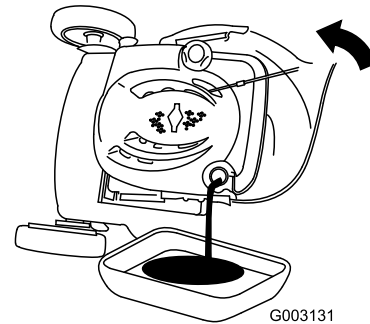

Figure 45
3. Tip the mower onto its side, with the air filter up, to drain the used oil out through the oil fill tube (Figure 45).